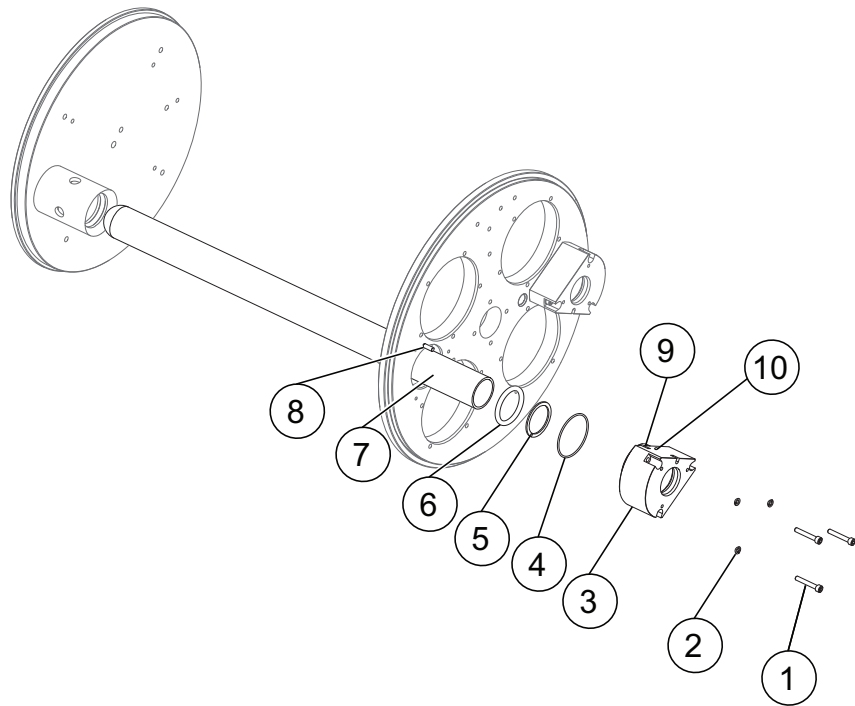

Figure 37 UV Sensor Sleeve Assembly
1. Loosen the screws on the gland plate evenly. Pull the gland plate and sleeve straight out, not on an angle. Refer to Figure 37.